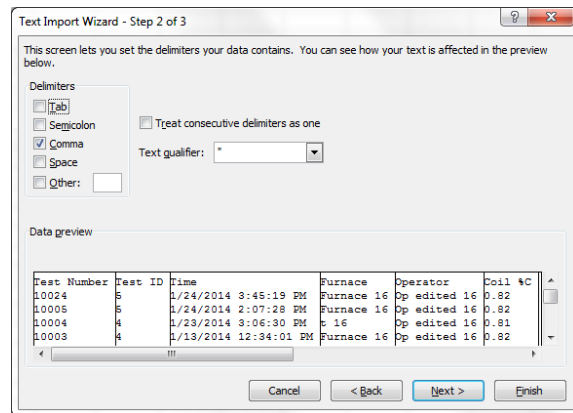

Figure 48 - Importing CSV file in Microsoft Excel (Step 2 of 3)
4. Set the Delimiter type to “Comma” (Figure 48). Then click **Next**.